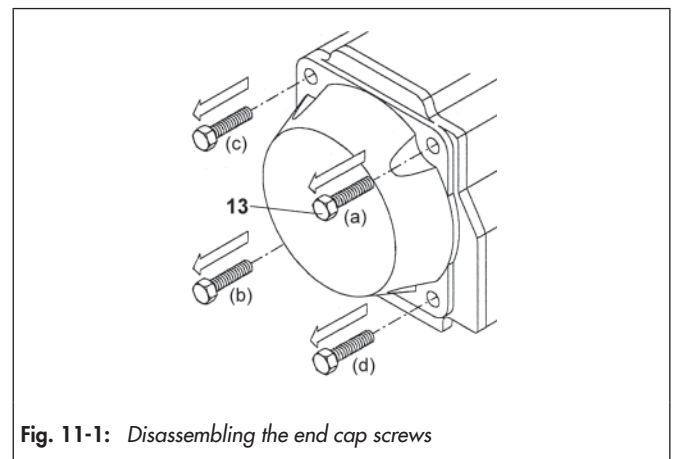

Fig. 11-1: Disassembling the end cap screws
- ⇒ When disassembling the end cap screws, observe the order, see Fig. 11-1.
- ⇒ Release the spring compression. Unscrew each end cap screw (13) one rotation each according to the order shown in Fig. 11-1 and the number of rotations specified in Table 11-1.